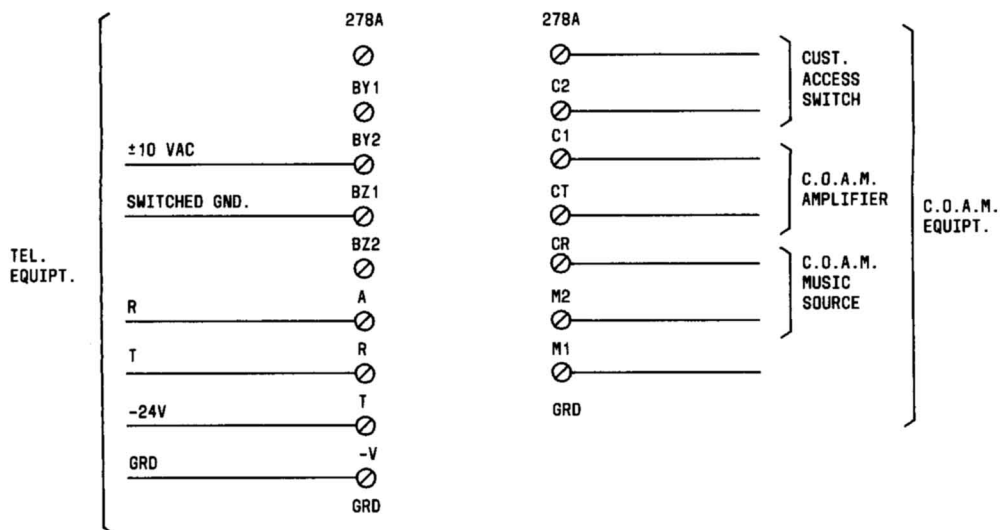

Fig. 6—Connections for 32A Communication System (HORIZON)
3.06 Connections between the 278A adapter and the 32A communication system (HORIZON) is shown in Fig. 6.